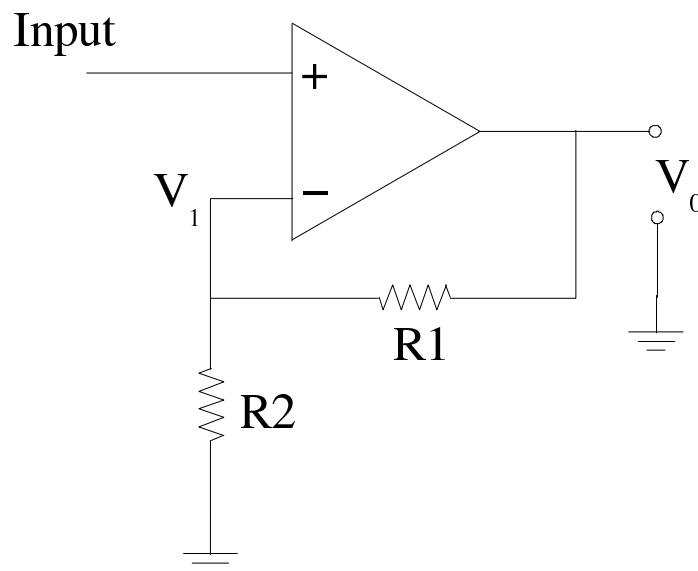

Figure 2: Non-inverting Amplifier
Non-Inverting amplifiers do just as their name implies: they amplify a signal with zero phase shift. Meaning, if a sine wave is the input, then a sine wave with zero phase shift is the output, simply amplified. Recalling, the role of the inverting and non-inverting inputs of the op-amp, described above, it is clear that a non-inverting op-amp should be wired as shown in figure 2.
*Use this information to construct the circuit in shown in figure 2 choosing  $R_1$  and  $R_2$  (from your “parts box”) such that the gain of the amplifier is approximately 10.*